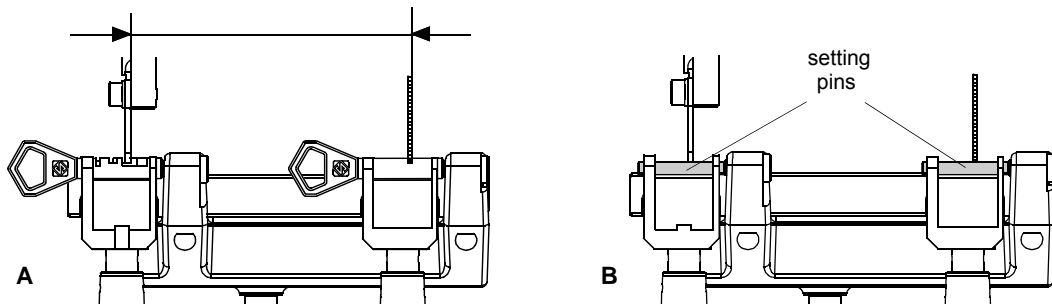

Fig. 10
Axial setting refers to adjustment of the distance between the tracer point position and cutting position (fig. 10-A). **The axis setting for the DELTA 2000 MC is fixed and is established on assembly in our workshops.**
- 1) place the setting pins (provided) on the clamps (fig. 10-B).